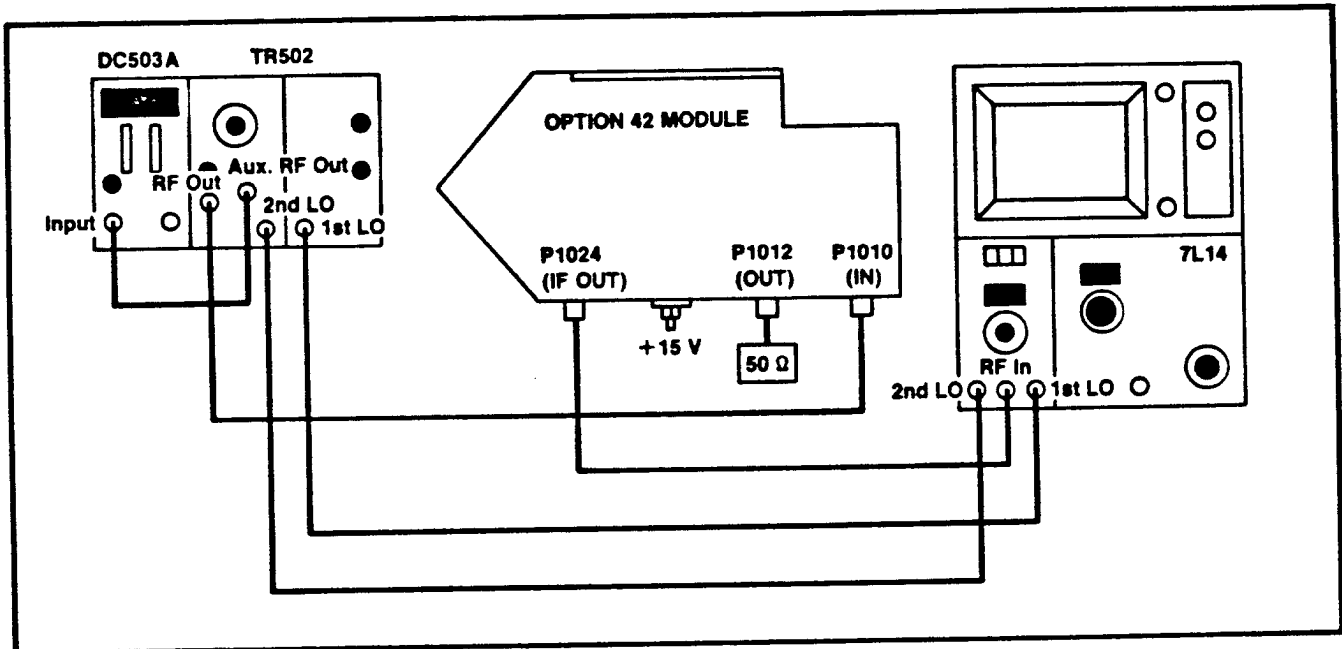

Fig. 3-55
a. Connect the test equipment as shown in Fig. 3-55